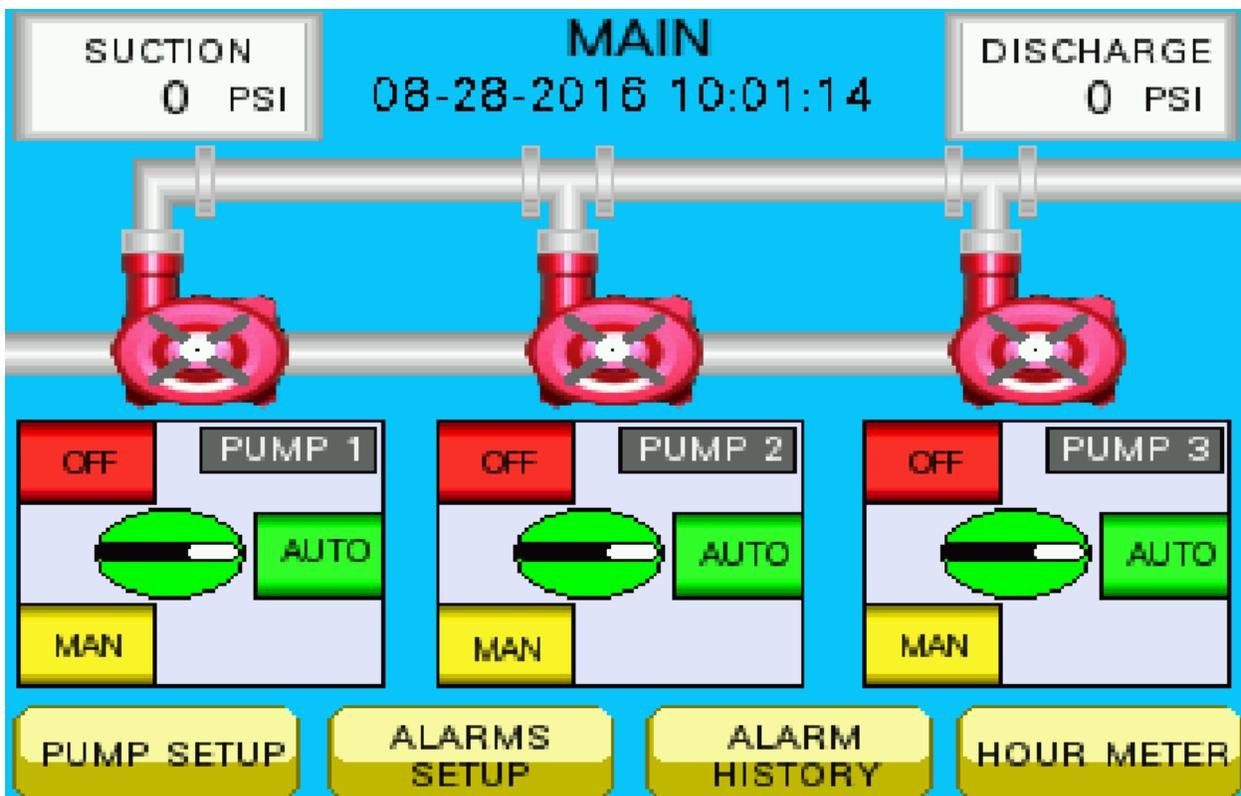
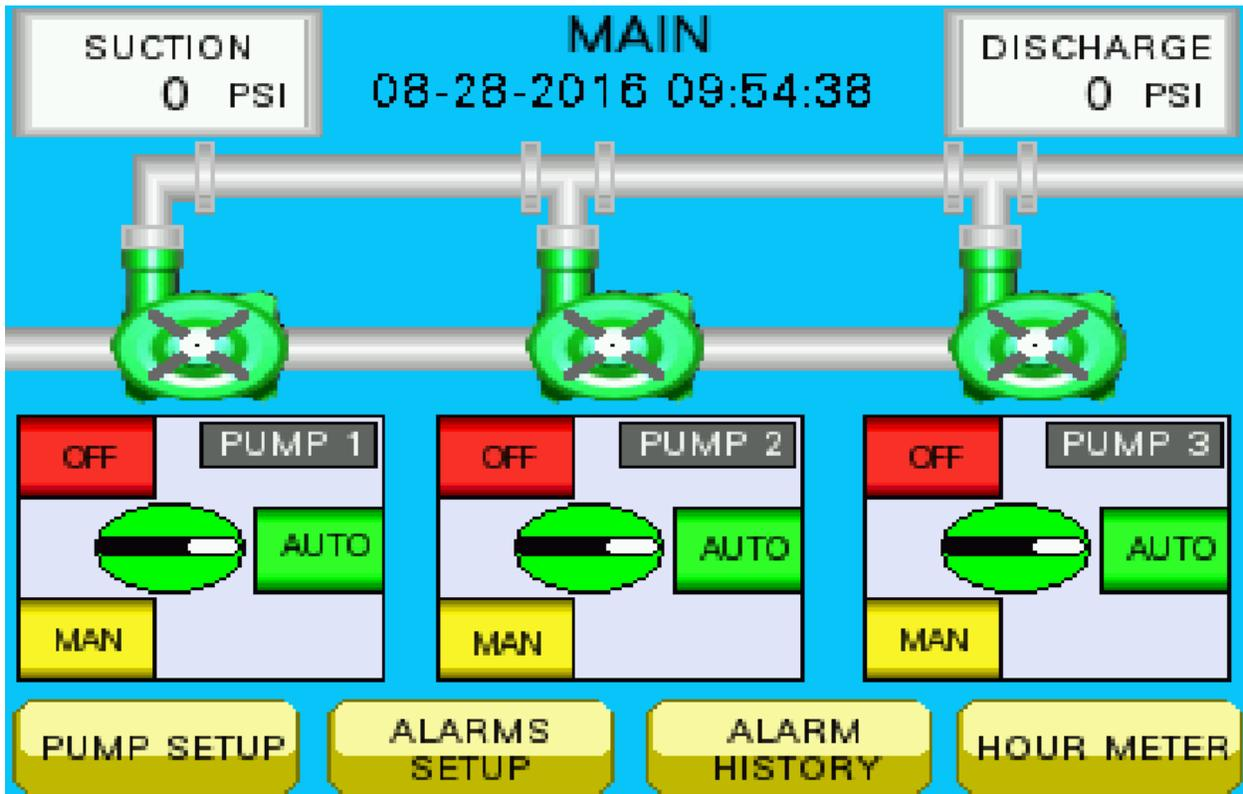

Figure 2.0
Figure 2.1
1. The system is in automatic after the correct system and alarm pressures have been set by the user and the HOA switches are placed in auto. When the HOA is in auto the selector switch will be green in color and pointing at the AUTO button. If the system is in auto and the pump is not running the pump will appear red and the impeller will not be rotating like figure 2.0 below. If the system is in auto and the pump is running the pump will appear green with a rotating impeller like figure 2.1 below.